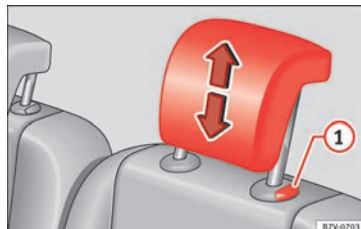

Fig. 150 Adjust the head restraints in the second or third row of seats
- Raise the head restraint in the direction of the arrow or lower it » **Fig. 149** or » **Fig. 150** **1** with the button pressed » in **Removing and installing the head restraints** on page 146.